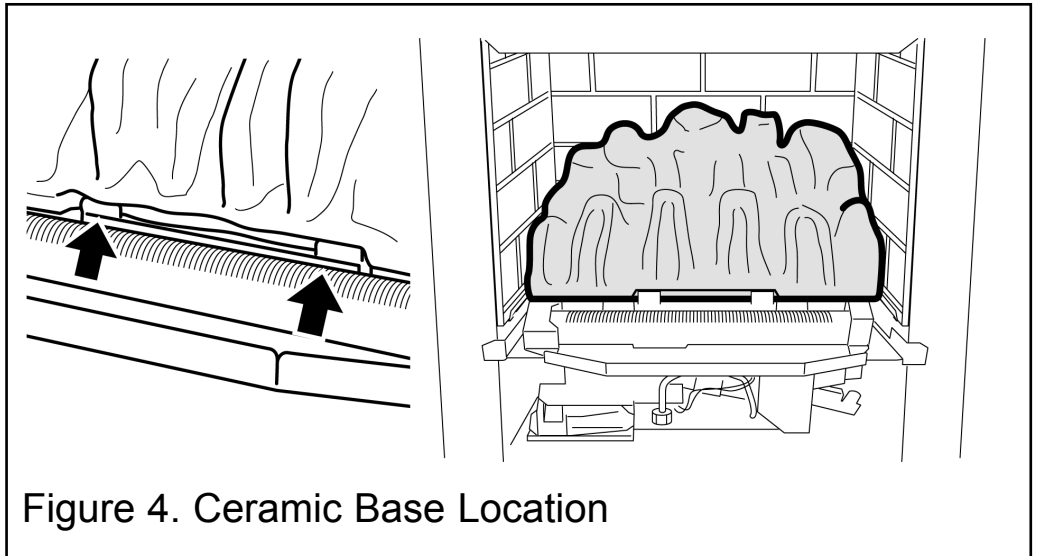

Figure 4. Ceramic Base Location
1. Place the ceramic base coal in the burner compartment. The bottom rear face of the coal should rest on the angled ledges at the back of the burner compartment. The bottom front recess edges on the coal base should locate against the tags at the front of the ceramic support. (See figure 4).